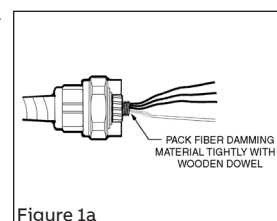

Figure 1a
- Pack the fiber damping material tightly into all voids between conductors and body and spread strands of uninsulated grounding conductor, where applicable (Figure 1a).